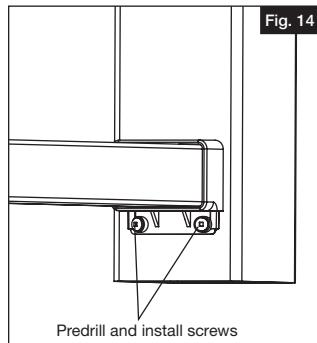

Fig. 14
- b. Install the #10 x 1 $\frac{1}{4}$ " square drive screws (Fig. 14).